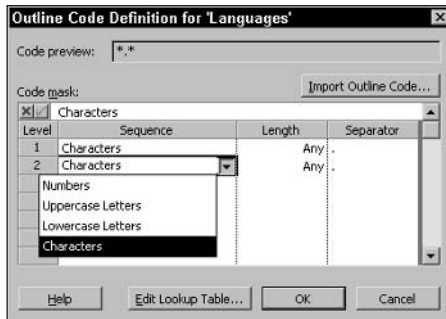

Figure 19-26: Define the structure for your outline code here.
8. Click the Define Code Mask button to open the Outline Code Definition dialog box, as shown in Figure 19-26.